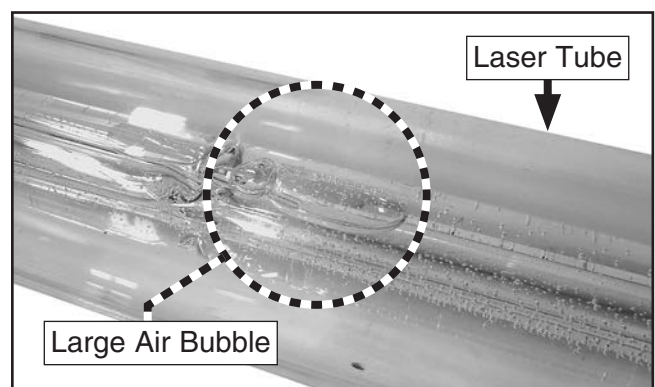

Figure 100. Example of large air bubbles when priming laser tube.
15. Once all large air bubbles are released, laser tube is primed with water (see **Figure 100**).